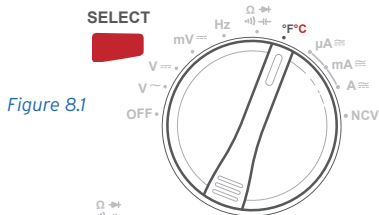

Figure 8.1
1. Turn the rotary dial to the temperature (**°F/°C**) position. Press **SELECT** to choose Fahrenheit or Celsius units. [Figure 8.1]